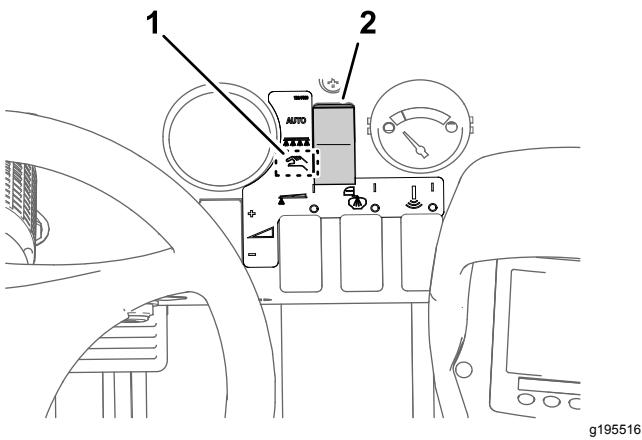

Figure 43
2. Set the sprayer mode button to the Manual Mode (Figure 43).